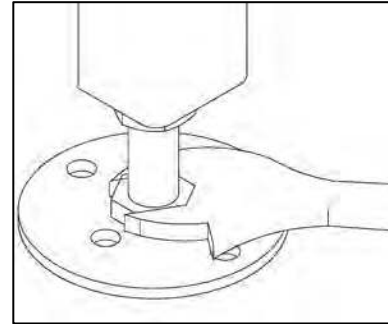

Figure 2
④ Adjust the Leveling Foot
b. Use a large adjustable wrench to loosen the Hex Nut, then rotate the hex welded to the foot to the desired height (**Figure 2**), and finally retighten the 3/4-10 Hex Nut to secure it in position.